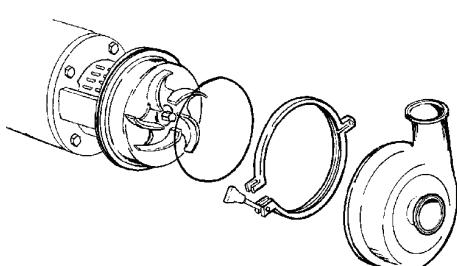

Figure 36 - Install Casing
19. Install the casing o-ring on the backplate and clamp the casing in place. See Figure 36.